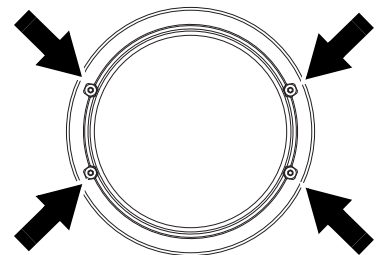

Figure 2
7. See Figure 2. Release the four screws from the front lens, then release the front lens safety attachment. Remove the front lens and store it for possible re-use if the fixture is returned to standard configuration at a later time.